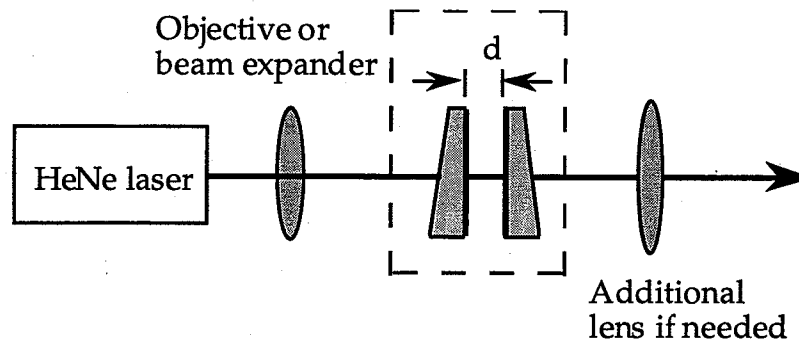

Figure 1. Setup for Fabry-Perot Interferometer
- (1) Measure the reflectance  $R$  and transmittance  $T$  of the partially transparent mirrors used to form the Fabry-Perot cavity. Based on the measured reflectance, calculate the cavity finesse. [The coefficient of finesse  $F$  and finesse  $\mathcal{F}$  of a Fabry-Perot cavity are  $F=4R/(1-R)^2$  and  $\mathcal{F}=(\pi\sqrt{F})/2$ , respectively. See (9.69) and (9.70) of Hecht].
- (2) Assemble the setup shown in Figure 1. If available, mirrors based on wedged substrates should be used to minimize multiple reflection by various glass surfaces and reflection back to the laser. All components of the Fabry-Perot cavity, i.e., the mirrors and mounting hardware inside the dash-lined box, should be held firmly as one piece to reduce relative motion between these components. (However, be careful with the small set screws. Don't crush the dielectric coated mirrors with the set screws). The whole setup should be as compact as possible. Therefore, keep the mirror separation as small as practical. If a coherent light source with a "reasonable" coherent length is used as the light source, a separation  $d$  of 1~3 cm would be a convenient choice for this experiment. The two mirror surfaces (shown as heavy lines in Figure 1) should be parallel and the laser beam should incident normal to the mirror surface. See Section 7-4 of Nussbaum and Phillips for the procedure for aligning the mirrors. If needed, a second lens may be used to expand the beam further. The deformation of the fringe patterns is most likely due to the dust on or defects of the lenses and mirrors.
(3) If the light used is monochromatic, one set of fringes is produced. If the interferometer finesse is sufficiently high, which requires very careful, almost perfect, alignments, the different modes of the laser, corresponding to different frequencies, produce various interference patterns, all superimposed. Look for these superimposed fringes at the observation screen.